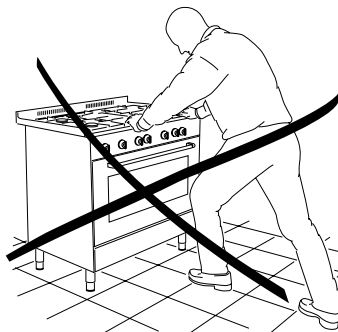

Fig. 23
**When moving cooker to its final position DO NOT DRAG (fig. 23).**